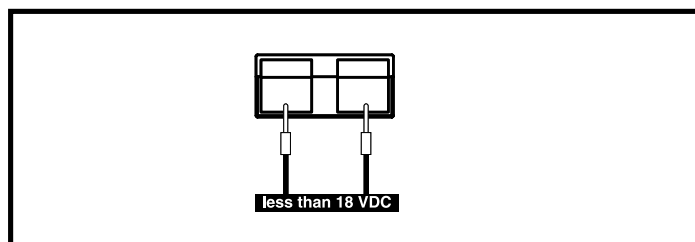
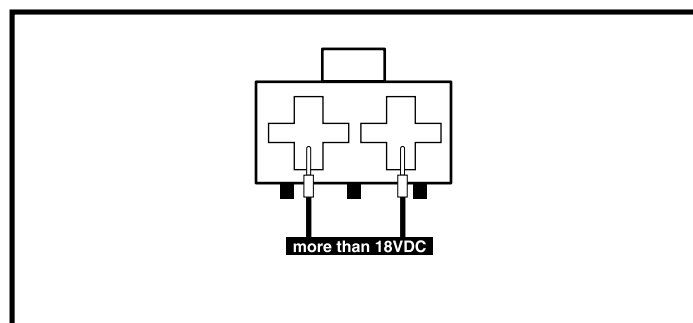
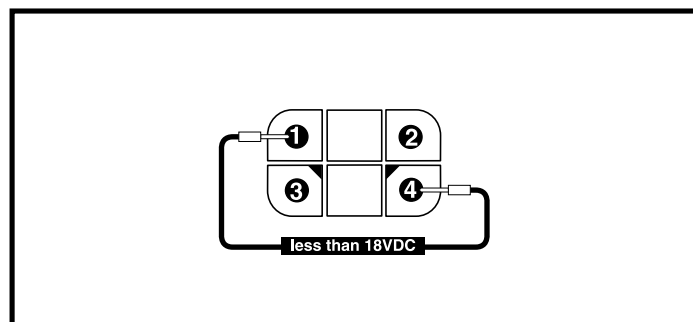
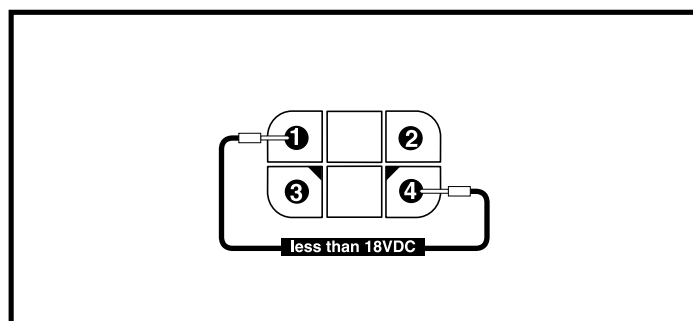

Figure 4. Connector 3a
Figure 6. Connector 2b
Figure 7. Power Module 4-pin Bus Connector (6a)
Figure 8. Connector 8a
6. Measure voltage across pin 1 and pin 2 on connector 3a. See figure 4.
- If your multimeter indicates more than 18VDC, then replace the battery harness (3) and retest the system.
9. Measure resistance across the two terminals on the circuit breaker (7c). See figure 4.
- *If your multimeter indicates less than 1 ohm*, then replace the circuit breaker harness (7) and retest the system.
11. Unplug connector 2b from the power module (6). See diagram 3.
12. Measure voltage across pin 1 and pin 2 on connector 2b. See figure 6.
- *If your multimeter indicates less than 18VDC*, then replace the power interface harness (2) and retest the system.
13. Unplug connector 8b from the power module (6). See diagram 3.
14. Measure voltage across pin 1 and pin 4 of the power module's 4-pin bus connector (6a). See diagram 2 and figure 7.
- *If your multimeter indicates less than 18VDC*, then replace the power module (6) and retest the system.
15. Plug connector 8b back into the power module (6). See diagram 3.
17. Measure voltage across pin 1 and pin 4 of connector 8a. See figure 8.
- *If your multimeter indicates less than 18VDC*, then replace the controller harness (8) and retest the system.
- *If your multimeter indicates more than 18VDC*, then replace the FLIGHT controller (1) and retest the system.